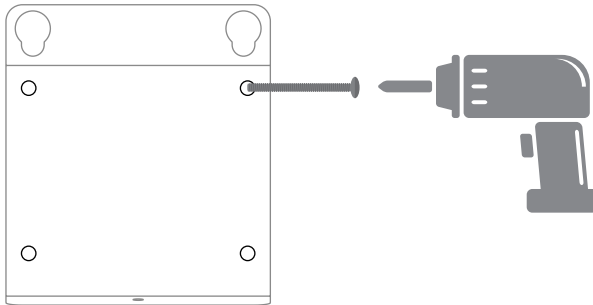

Fig. 5-13
5. Fix the bracket to the wall with the four expansion screws (see Fig. 5-13) included in the package.